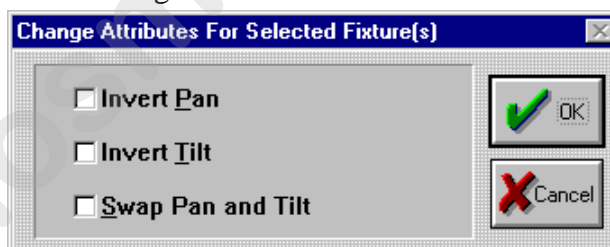
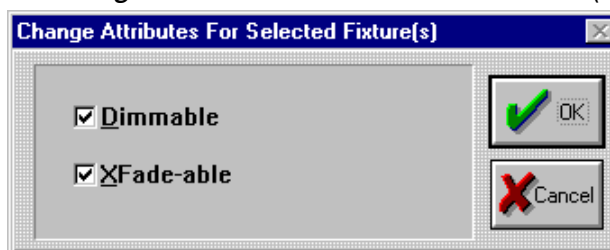

Figure 4.23. Change Attributes For Selected Fixture(s) Dialogue Box
Figure 4.24. Change Attributes For Selected Fixture(s)
3. Click on the **Configure** button to bring up the **Change Attributes For Selected Fixture(s)** dialogue box. Refer to Figure 4.23 for preset fixture types and Figure 4.24 for single channel DMX.